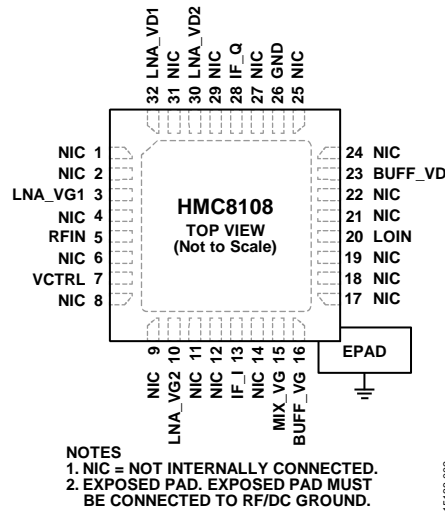

Figure 2. Pin Configuration
- Noise figure: 2 dB typical**